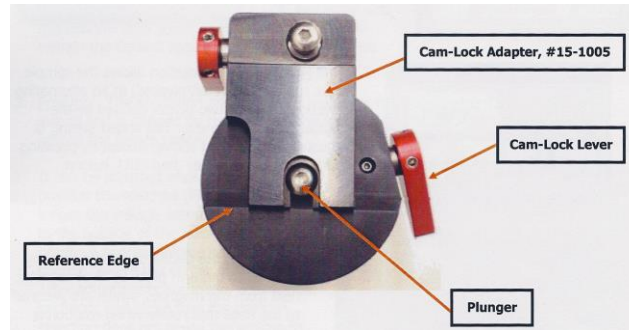

Figure 15: Bottom view of the Micro-Hub Assembly showing the reference edge.
**Note:** All fixtures are mounted to the bottom of the angle adjustment plate of the micro-hub assembly attached at the end/bottom of the spindle. Each fixture has a common U-shaped cutout. The flat edge of the fixture is referenced against the machine edge (lip) of the angle adjustment plate, which is located behind the cam-lock plunger (Figure 15).